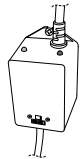

Figure 8
- Reconnect the UV bulb socket (7) to the power cord socket (11) make sure you use the latex glove provided when handling the UV bulb.
- Slide the new UV bulb (3) back inside the quartz tube.
- Reinstall the black bulb boot (6) back over the quartz seal compression nut (5).
- Reinstall the enclosure cover (9) with gasket (8) and secure with the screws.
- Once power is activated you can check the ballast (12), Figure 8, to see if the CLEARRAY System is functioning. A solid green light indicates that the CLEARRAY System is being provided power and should always be on. A solid red light indicates that UV bulb is activated.